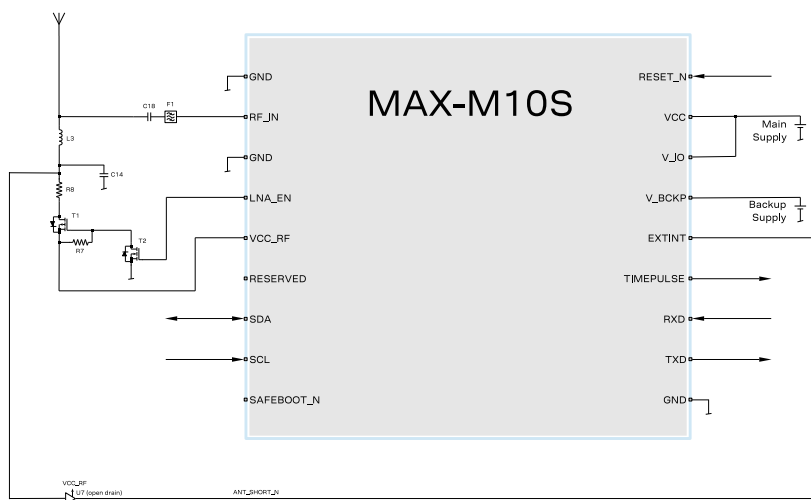

Figure 22: 2-pin antenna supervisor design
- An external SAW filter can be added in front of RF_{IN} as shown in Figure 22, which allows an SAW-LNA-SAW RF front-end circuit for improving out-of-band immunity against RF interference from other sources. This is especially useful when MAX-M10S is used in cellular applications.
- An external SAW filter can be placed on the RF path as shown in Figure 22, which allows an SAW-LNA-SAW RF front-end circuit for improving out-of-band immunity against RF interference from other sources. This is especially useful when MAX-M10S is used in cellular applications.